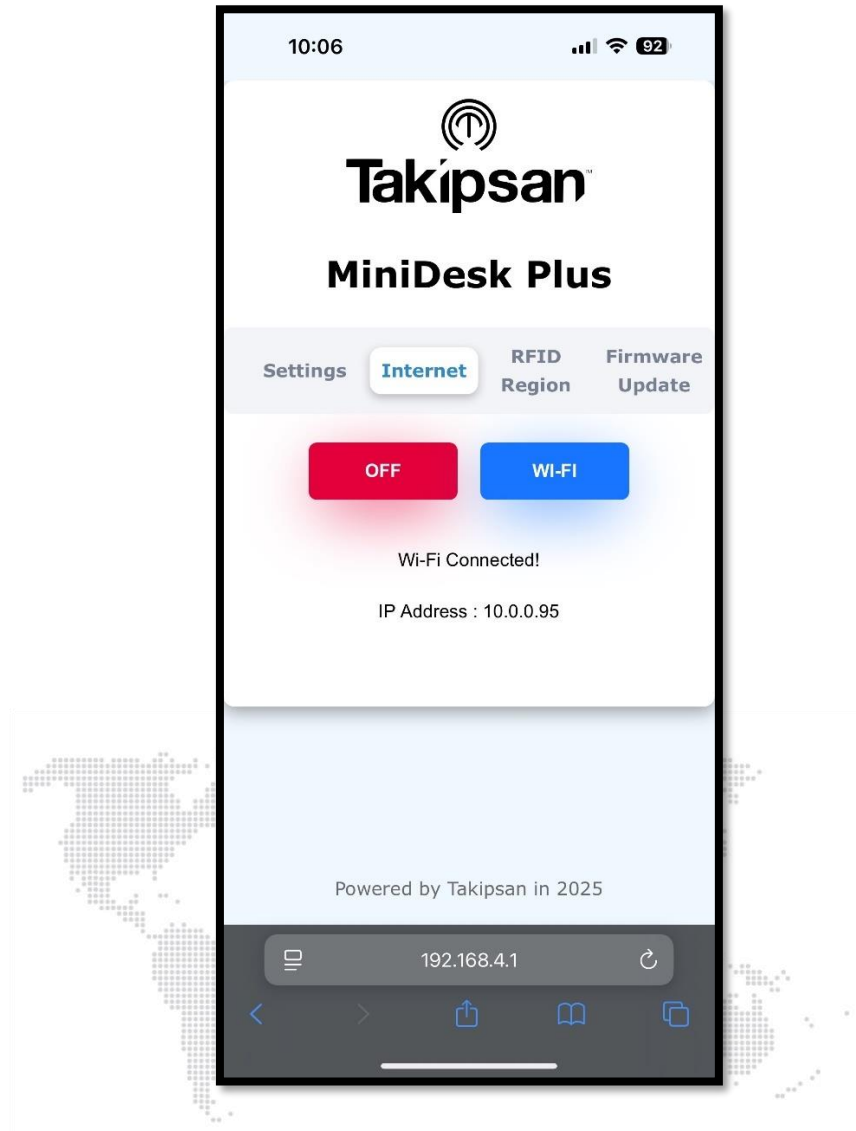

Figure-10
- If the connection is successful, a 'Wi-Fi Connected!' warning message will appear. (Figure-10)